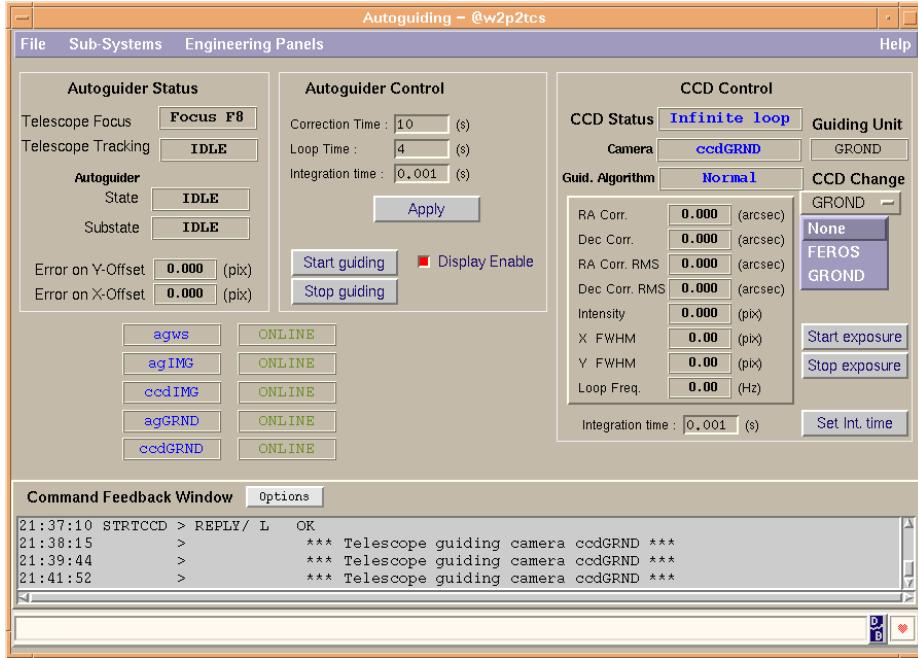

Figure 2.5: Switching between **GROND** and **FEROS** guide camera.
- a. select GROND below CCD change (see Fig. 2.5, p. 30)
- a. select FEROS below CCD change (see Fig. 2.5, p. 30)
Check that the **GROND** and **FEROS** guide cameras work by switching between them on the **AG** window (see Fig. 2.5, p. 30). The switching should set the camera in CCD status Infinite loop. It may be necessary to click on Start exposure after switching to obtain this status. If status is Fail, the camera must be restarted (see Sect. 10.2, p. 65).